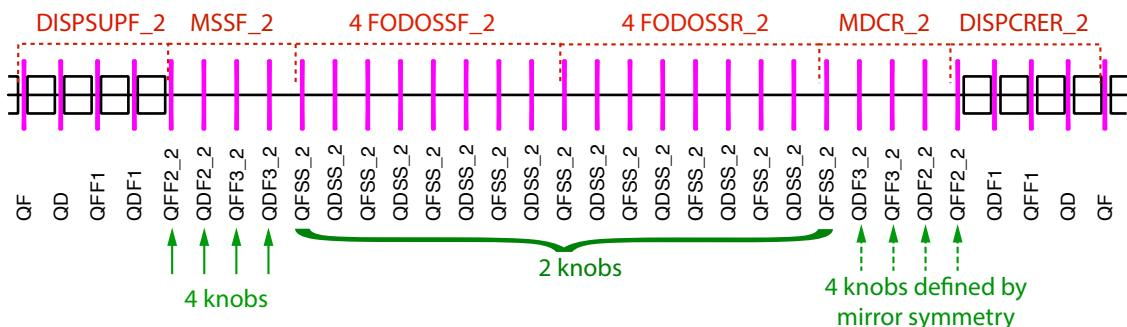

Figure 17: Enter Caption
Besides the above datums, other datums are need to make sure that the outgoing Twiss from the modified straight section correctly match the Twiss at the start of the dispersion creator `DISPCRER_2` (see Fig. 17. The needed datums are:
- 1. Implement the tune cell:** Add the new special quadrupoles shown in Fig. 17, and optimize them using the `tao.init` file created in the example so the lattice has the correct tunes  $Q_x = 54.08$  and  $Q_y = 54.14$ .